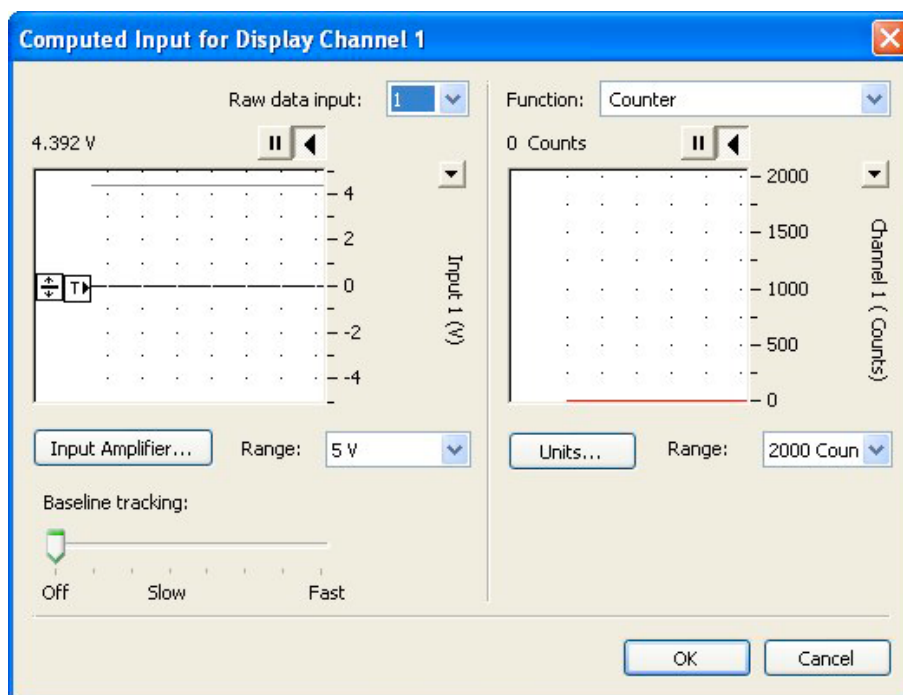

Figure 6.11 Computed Input dialog box with Counter selected
- 6.4.8** Select Counter from the Function menu of the Computed Input dialog box (**Figure 6.11**). Drag the Baseline tracking slider to Off, set the voltage range to 5 V and the count range to 2000 counts.